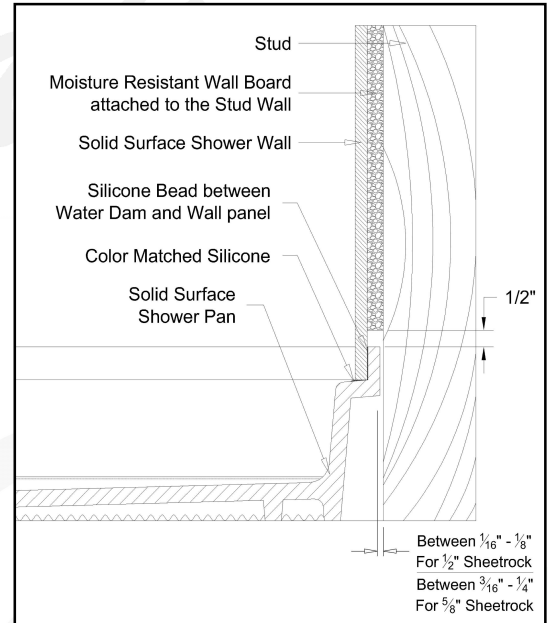

Figure 2a
- Grab Bars:** Provide continuous horizontal blocking of 2" x 8" across the wall area ranging from 30" to 38" above the finished floor (or sub-floor). (Figure 2a)